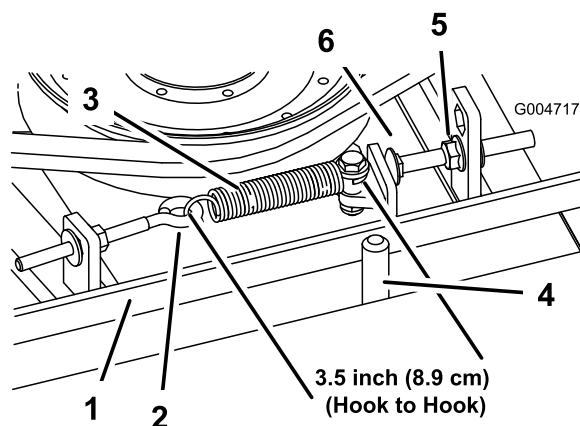

Figure 96
When properly tensioned, the inside measurement of the extension spring (hook to hook) should be approximately 8.9 cm $\pm$.63 cm (3.50 $\pm$.25 inch). Once the correct spring tension is attained, adjust the stop bolt (carriage bolt) until there is approximately .32 cm $\pm$.152/.000 cm (.125 $\pm$.060/- .000 inch) clearance between the head of the bolt and the idler arm (Figure 96).
Note: Make sure the belt is positioned on the spring side of the belt guide (Figure 96).
2. Loosen the eye bolt allowing the removal of the extension spring (Figure 96).
3. Loosen the flange nut securing the stop bolt to the mounting tab. Back off the nut enough to allow the idler arm to pass by the stop bolt (Figure 96). Move the idler pulley away from the belt to release belt tension.
8. Reconnect the extension spring (Figure 96) to the eye bolt and tension the belt as follows: